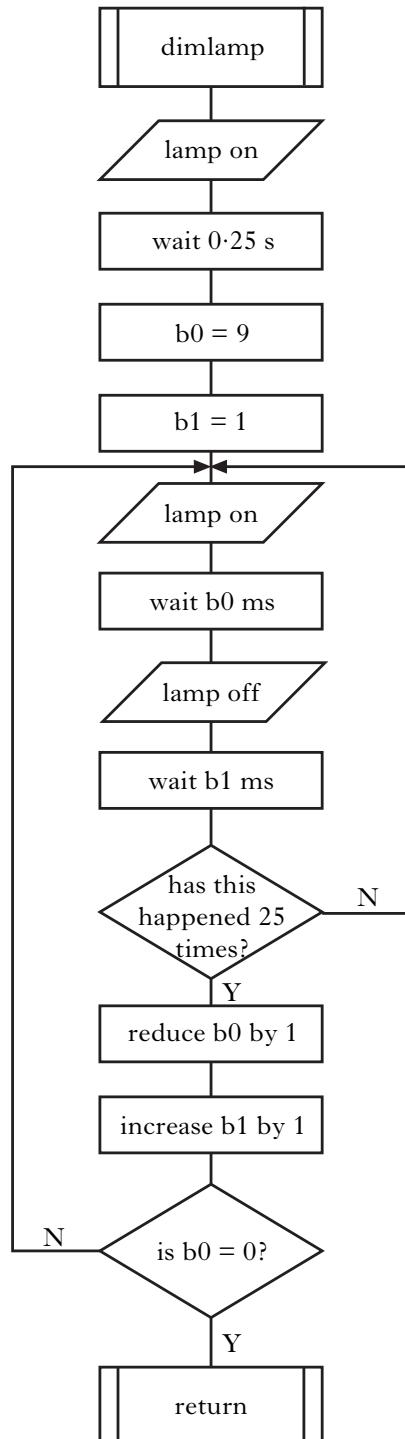

Figure Q1
- The interior lamp of a car is controlled by a microcontroller. Figure Q1 shows the flowchart for the sub-procedure *dimlamp* which is used to dim the lamp gradually after the car doors are closed. The lamp is connected to pin 4 of the microcontroller.